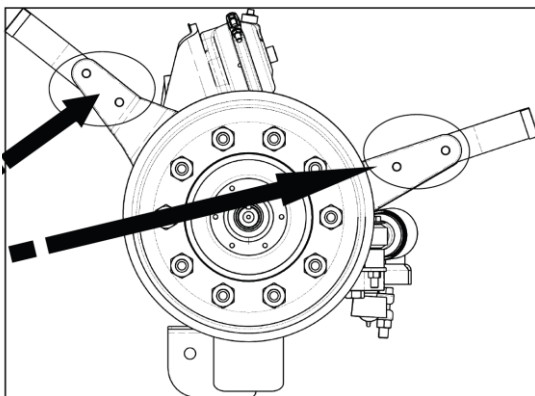

Figure 11 -Mark Mounting Hole Locations
14. Use the holes in the steel brackets attached to the axle as a template to locate and mark the mounting holes in the aluminum arms, see Figure 11.